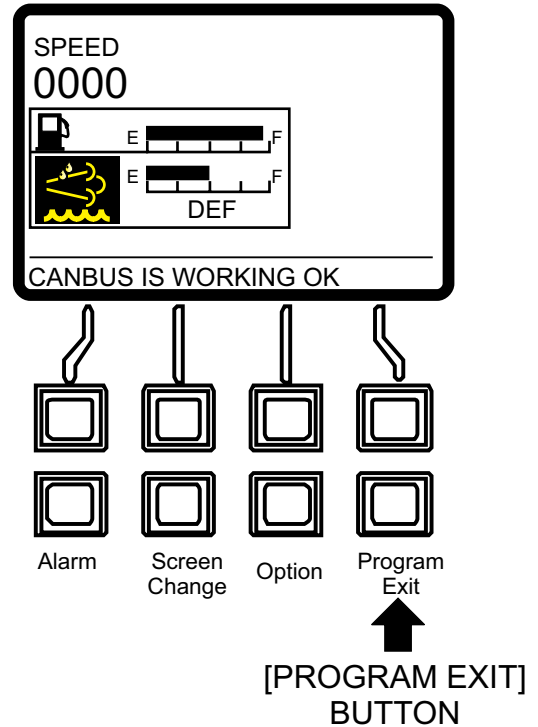

Figure 71. Main Screen
3. Next, press the [Program/Exit] button (Figure 71) to enter the Main Menu.